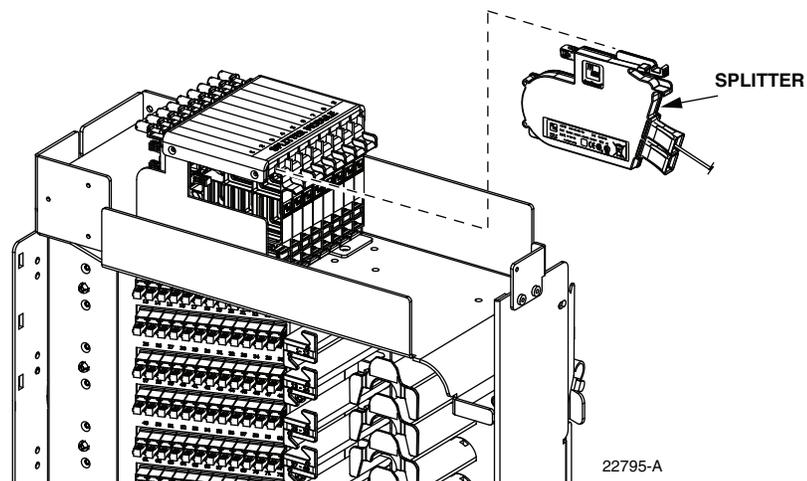

Figure 12. Splitter Installation
7. Insert the splitter into the mounting slot as shown in Figure 12.